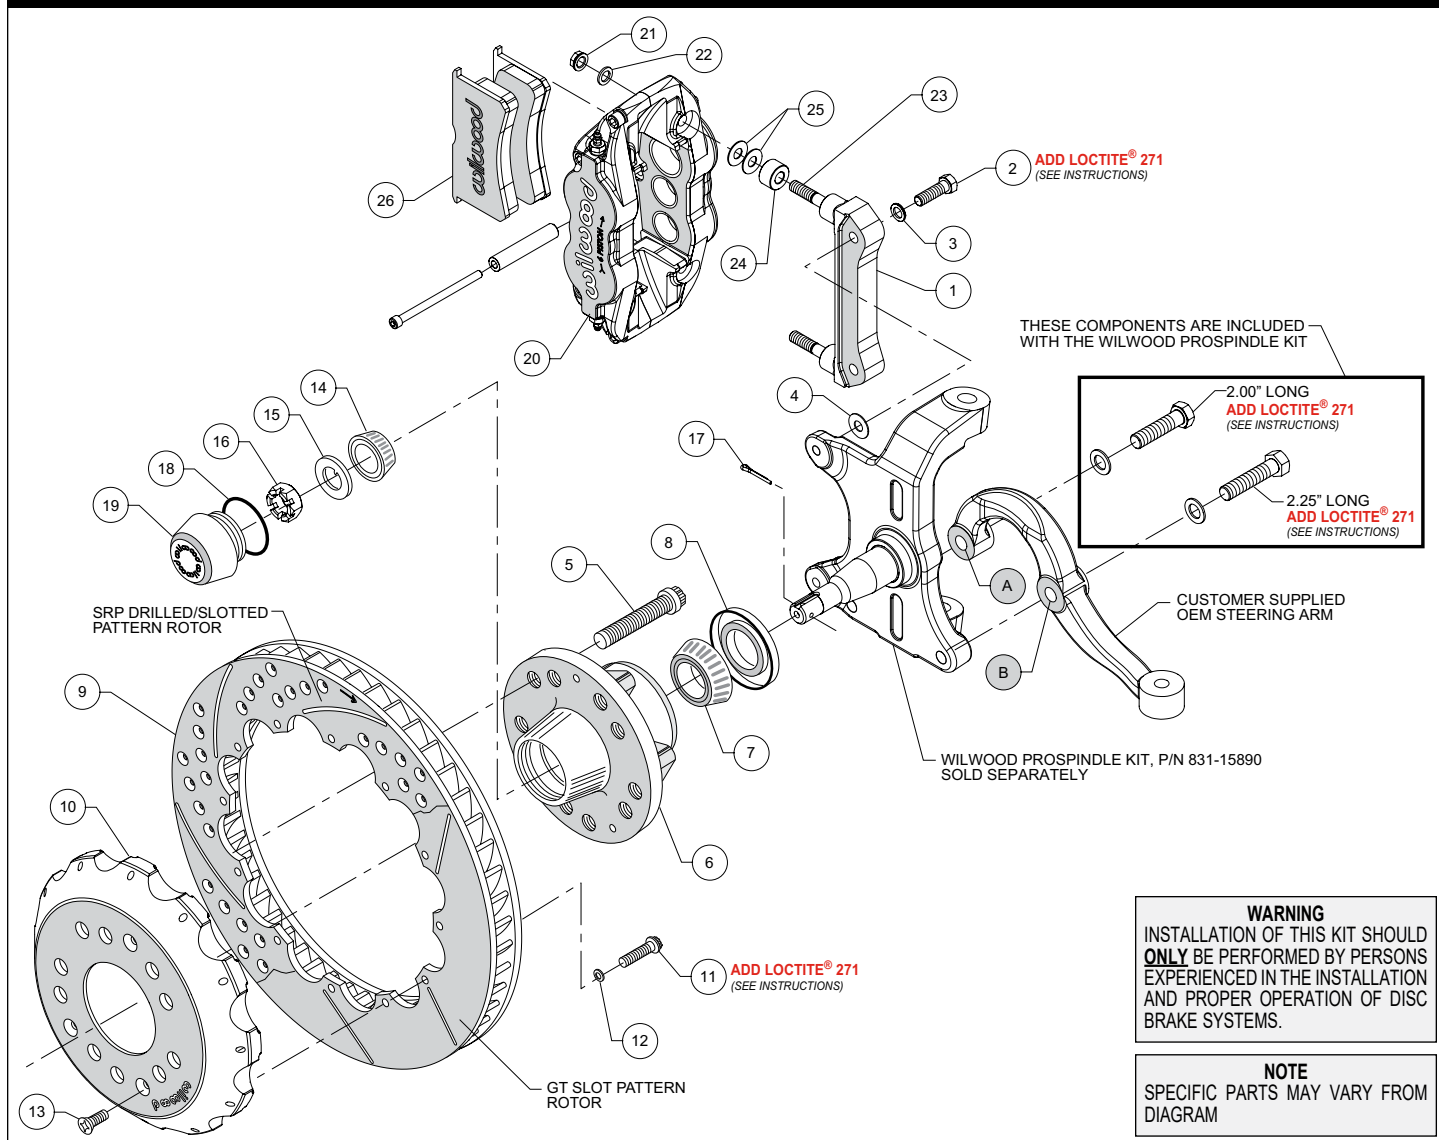
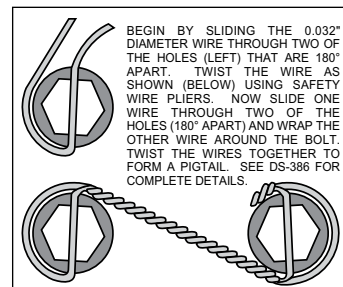

Figure 1. Typical Installation Configuration
Figure 3. Safety Wire Diagram
Assembly Instructions (numbers in parenthesis refer to the parts list on the preceding page, and Figure 1):
•**NOTE:** Wilwood's AFX ProSpindle kit includes bolts and washers to mount the steering arm (customer supplied) to the spindle. The various bolts are identified by length in the following instructions and in Figure 1.
•Orient the steering arm, and identify the hole marked "A" as shown in Figure 1. Attach arm to spindle using 2.00" long bolt and washer (from ProSpindle kit), Figure 1. Finish attaching the steering arm through the hole marked "B", using 2.25" long bolt and washer (from ProSpindle kit), Figure 1. Temporarily tighten the mounting bolts. **NOTE:** The steering arm must fit squarely against the mounting points on the spindle. Inspect for interference from casting irregularities, machining ridges, burrs, etc. Remove bolts one at a time, apply red *Loctite*® 271 to threads, and torque to 77 ft-lb.
•The caliper mount bracket (1) should initially be installed with clean, dry threads on the mounting bolts. Orient the bracket as shown in Figure 1, and install using bolts (2) and washers (3). Initially place one .035" thick shim (4) on each bolt between the bracket and spindle, Figure 1 and Photo 1. Temporarily tighten the mounting bolts. **NOTE:** The bracket must fit squarely against the mounting points on the spindle. Inspect for interference from casting irregularities, machining ridges, burrs, etc. Later, after the caliper alignment has been checked, the mount bolts will be secured using red *Loctite*® 271.
•Install wheel studs (5) into the hub (6), Photo 2. Torque to 77 ft-lb. **NOTE:** There are two five lug patterns in the hub (5 x 4.50 and 5 x 4.75). Ensure the correct hub stud pattern is being used to fit the wheel application.
•Pack the large inner bearing cone (7) with high temperature disc brake bearing grease (available from your local auto parts store) and install into the backside of the hub (6), Photo 3.
•Install the grease seal (8) by pressing into the backside of the hub (6), flush with the end of the hub, Photo 3.
•Pack the small outer bearing cone (14) with high temperature disc brake bearing grease and install into front of hub (6). Slide the hub assembly onto the spindle. Secure using spindle washer (15) and spindle nut (16), Photo 4. Bearing adjustment: Tighten the nut while turning the hub. When there is a slight bind on the bearings, they are seated correctly. Back the nut off about 1/6 to 1/4 of a turn, or sufficiently to allow .001" to .007" end play. **WARNING:** Failure to back off adjusting nut could cause bearing to run hot and be damaged, which could cause the wheel to lock or come off. Install a new cotter pin (17).
•Screw dust cap (19) into hub (6). Friction created by the o-ring (18) on the dust cap keeps it from unscrewing. **NOTE:** The O.D. of the existing OEM spindle washer may be larger than
- Orient the rotor (9) and the hat (10) as shown in Figure 1 and Photo 5. Attach rotor to hat using bolts (11) and washers (12). Apply red *Loctite*® 271 to the bolt threads and torque to 155 in-lb using a criss-cross pattern. For an added measure of security, the bolts may be safety wired using standard 0.032 inch diameter stainless steel safety wire as shown in Figure 3. Refer to Wilwood's data sheet DS-386 (available at www.wilwood.com/Pdf/DataSheets/ds386.pdf) for complete safety wire installation instructions.
- Slide the hat/rotor assembly (10 and 9) onto the hub (6) taking care to align the small countersunk holes in the hat with the small threaded holes in the hub. **NOTE:** *The hat must fit flush against the hub face or excessive rotor run out may result.* Install three flat head screws (13) through the small holes in the hat, Photo 6, and torque to 85 in-lb.
- **NOTE:** *This kit contains distinct right and left hand calipers that must be mounted in a specific direction, as described below.* Initially place one spacer (24) and two .035" thick shims (25) on each stud (23) between the caliper and the bracket, as shown in Figure 1 and Photo 7. Mount the caliper (20) onto the bracket (1) using lock nuts (21) and washers (22), Figure 1. Ensure that the caliper is mounted so the largest pistons are at the rotor exit end of the caliper, in relation to the direction of rotor rotation. Temporarily tighten the lock nuts and view the rotor through the top opening of the caliper. The rotor should be centered in the caliper, Photo 8. If not, adjust by adding or subtracting shims (4) between the bracket and the spindle. Always use the same amount of shims on each of the two mounting bolts. Once the caliper alignment is correct, remove the bracket mounting bolts (2) one at a time, apply red *Loctite*® 271 to the threads, and torque to 40 ft-lb.
- Remove the caliper center bridge pad retainer bolt, nut, and tube from the caliper. Insert the brake pads (26) into the caliper, with the friction material facing the rotor, as shown in Photo 9. Check that the top of the brake pad is flush with the outside diameter of the rotor, Photo 10. If not, adjust by adding or subtracting shims (25) between the caliper and the bracket. After the caliper pad height is set, torque the caliper lock nuts (21) to 30 ft-lb. Secure the brake pads in place with the center bridge pad retainer tube, bolt, and locknut, Photo 11. The locknut should be snug without play in the bolt or tube. Be cautious not to over tighten.